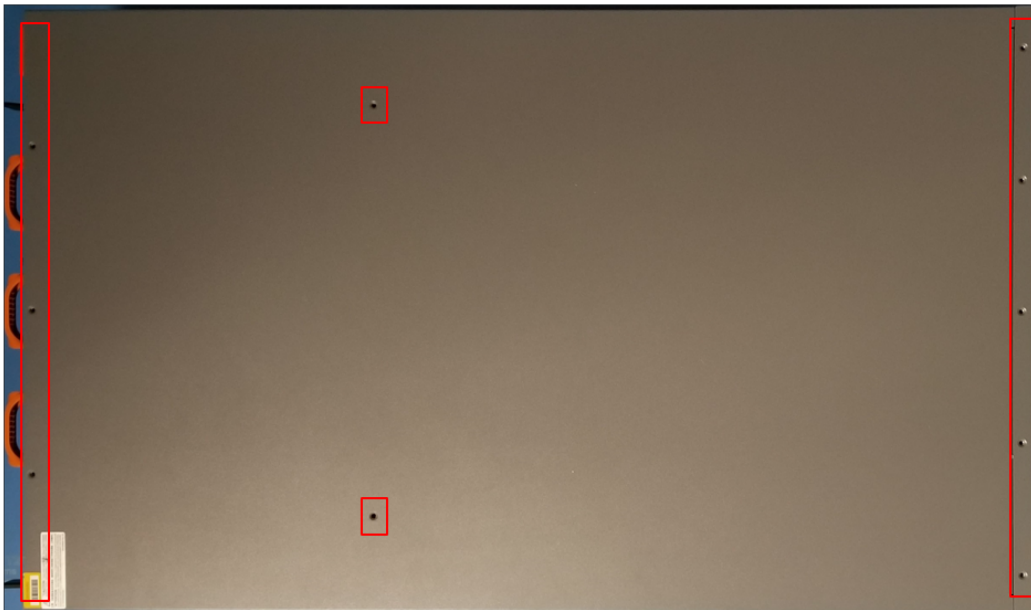
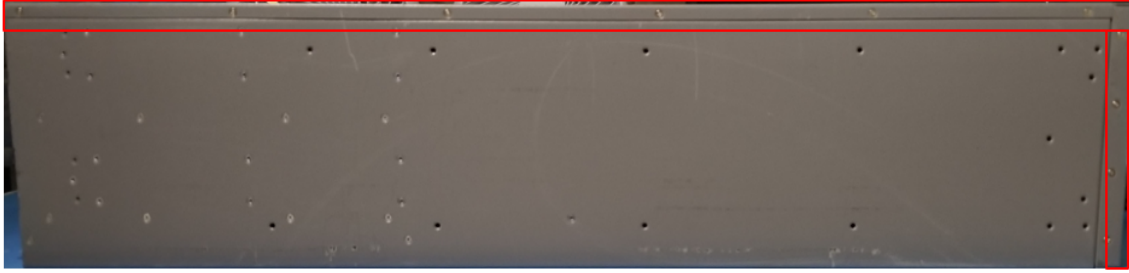

Figure 3-1. Top side screws removal
Figure 3-2. Left and Right sides screws removal
4. Remove all screws from the top and sides of the system (Figure 3-1 and Figure 3-2).
5. Remove all screws from left and right sides of chassis (Figure 3-2)